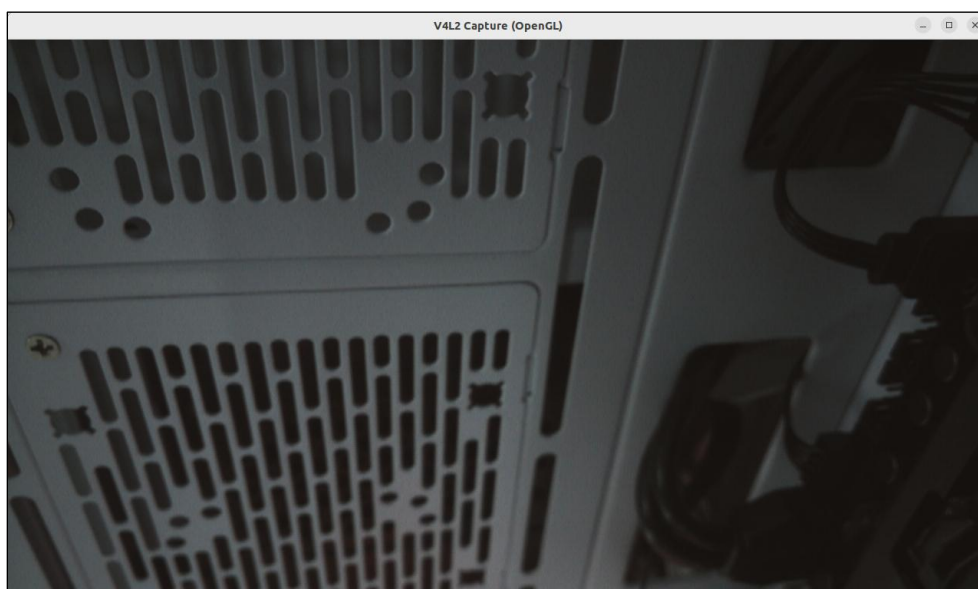

Figure 6.13. MIPI CSI-2 to PCIe Bridge Output Image Using the QV4L2 Application
8. Click the play button  to start streaming. A new window opens to display the live rendered video stream as shown in Figure 6.13.
Figure 6.13 shows the rendered streaming video data that is captured by the Sony IMX258 sensor on screen.